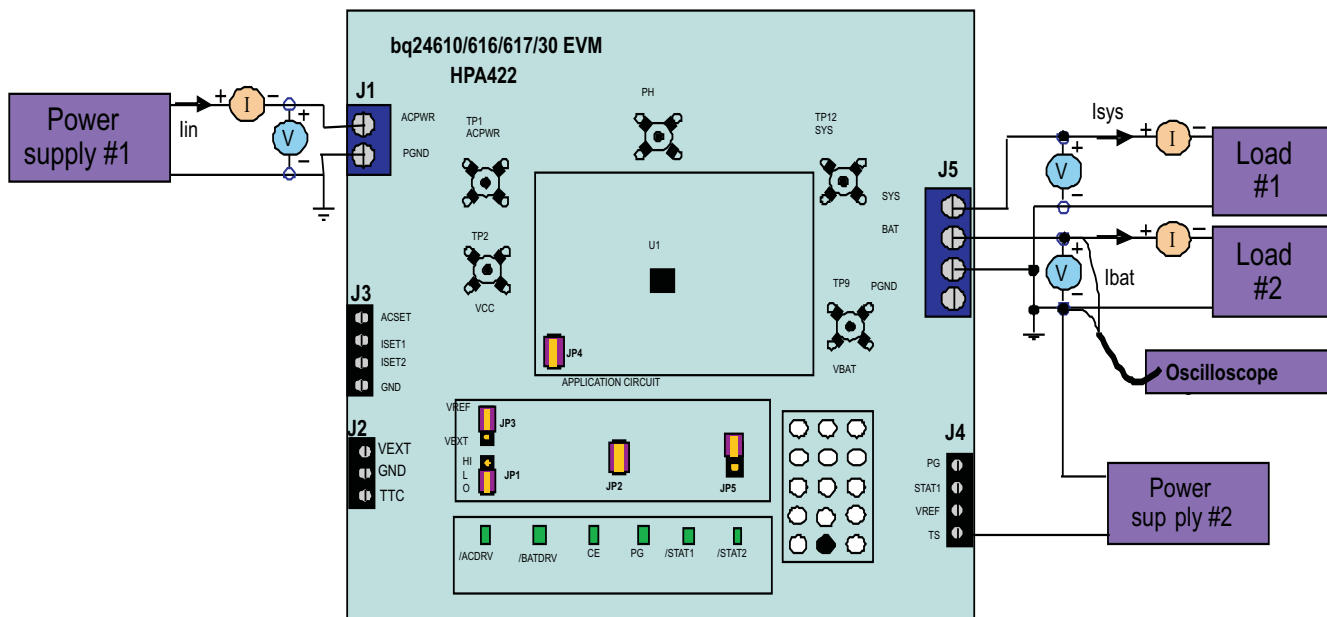

Figure 1. Original Test Setup for HPA422 (bq2461x/bq2463x EVM)
After the above steps, the test setup for HPA422 is shown in Figure 1.
3. Connect the output of the Load #1 in series with a current meter (multimeter) to J5 (SYS, GND). Make sure a voltage meter is connected across J5 (SYS, GND). Turn on the power of the Load #1. Set the load current to  $3.0\text{A} \pm 50\text{mA}$  but disable the load #1. The setup is now like Figure 1 for HPA422. Make sure  $I_{bat} = 0\text{A} \pm 10\text{mA}$  and  $I_{sys} = 0\text{A} \pm 10\text{mA}$ .
*Observe* → D3 (CE) on